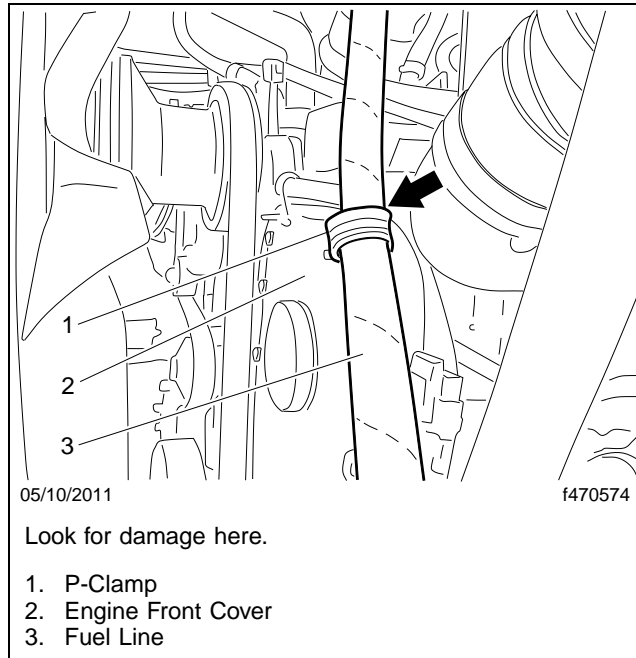
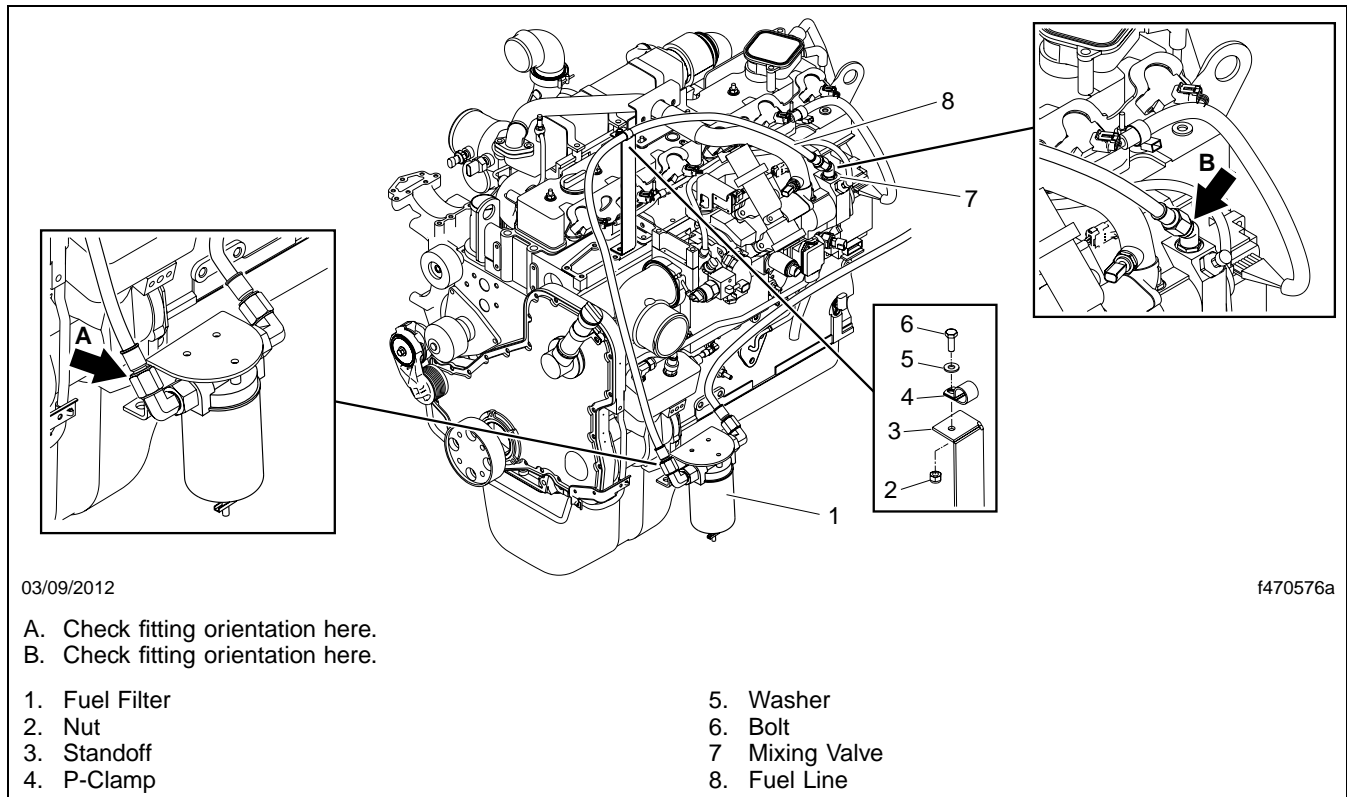

Fig. 3, Fuel Line Inspection
Fig. 4, Correct Fuel Line Routing
4. Inspect the fuel line for damage and correct routing. See **Fig. 3** and **Fig. 4**.